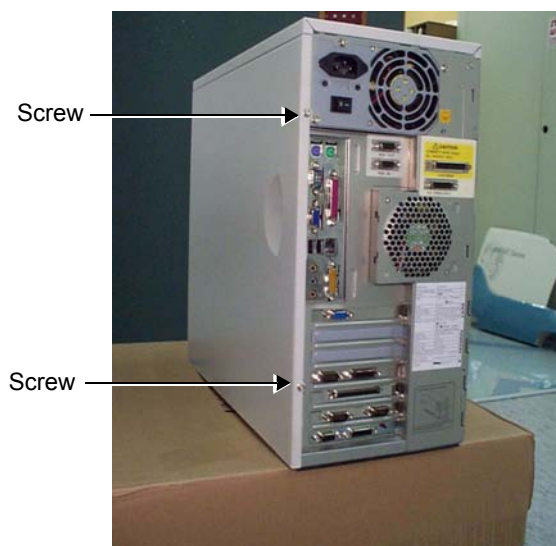

Figure 8-44 Side Cover - BEP2
- 1) Remove the two screws (that secure the side cover in position) from the rear of the BEP (see Figure 8-44 below).
- 2) Replace and tighten the two screws to hold the cover firmly in position (Figure 8-44 on page 8-54).